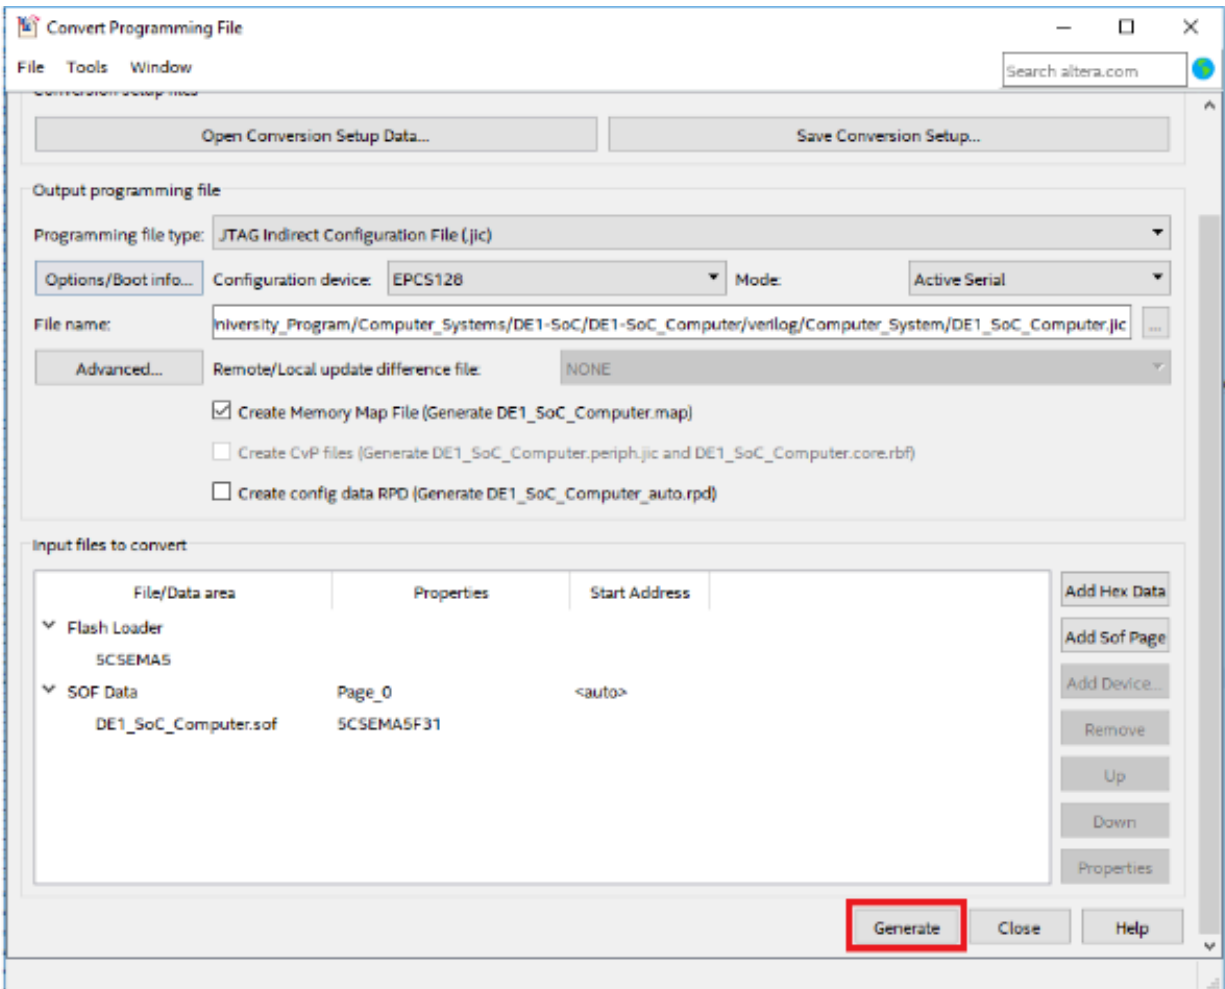

Figure 7: Convert SOF to JIC - Step 7
7. Verify that the settings match those shown in Fig. 7, and click “Generate”. After the .jic is successfully generated, close the “Convert Programming File” window.